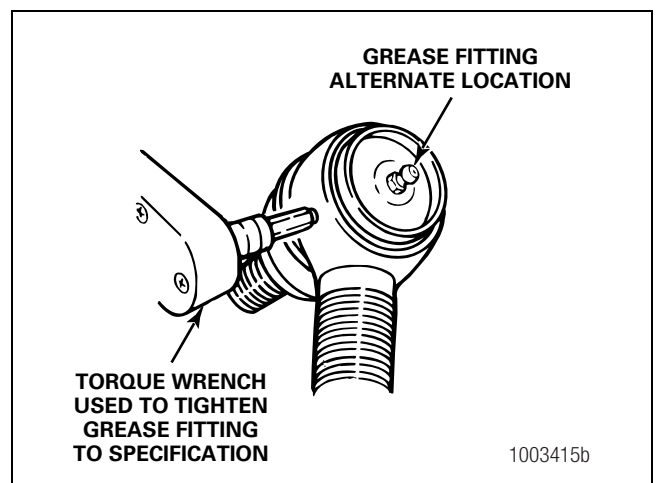

Figure 5.13
2. Tighten all grease fittings to 10 lb-ft (13.558 N•m). Figure 5.13.